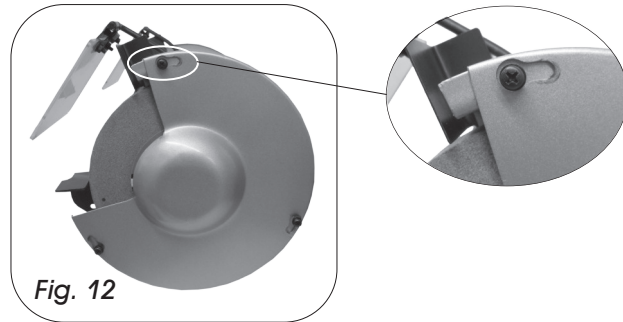

Fig. 12
- Rotate the cover clockwise slightly so that the screw heads line up with the holes on the side cover (Fig. 12); Remove the cover.